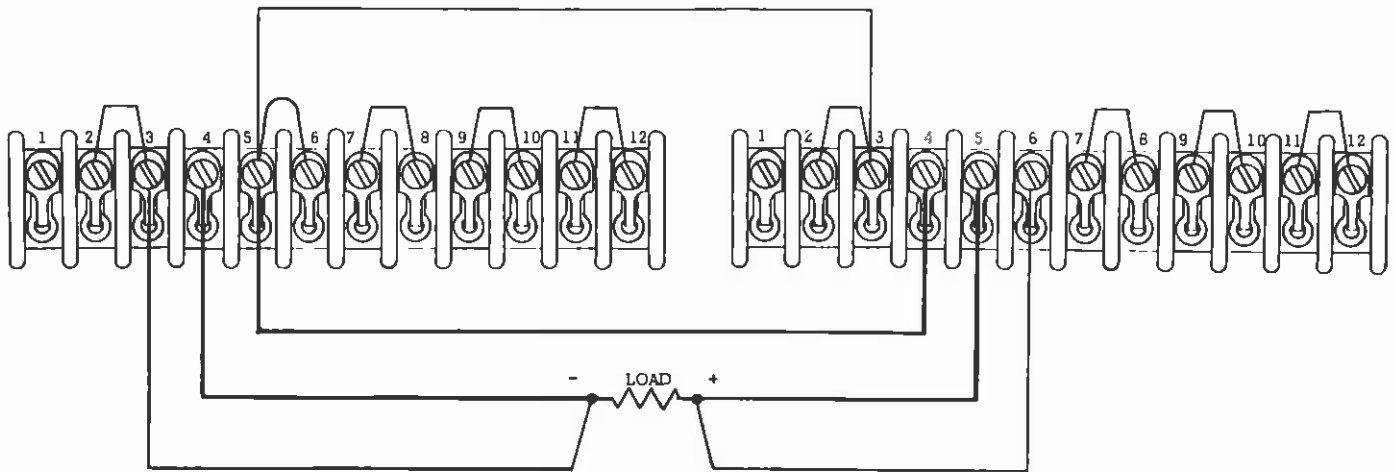

Figure 3-6. Series Operation
- c. Connect load leads as shown in Figure 3-6. Observe polarity.